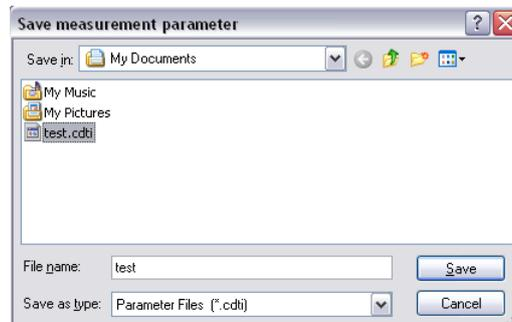

Figure 6.7 [Save measurement parameter] dialog box
- (2) Select a location to save the parameters by clicking the arrow on the top of the [Save in] box (in Figure. 6.7, “Desktop” is selected).
- (3) Input a filename in the [Filename] text box. The extension (the letters appearing after “.”) need not be entered. The output file is saved as a .cdti format file.
- (4) Clicking the <Save> button saves the spectrum is on disk (in the example the filename is “test”)